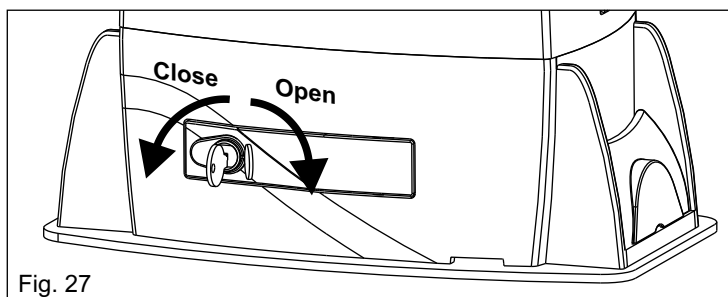

Fig. 27
- Open the lock cover, insert the key and rotate it 90° clockwise (Fig. 27).